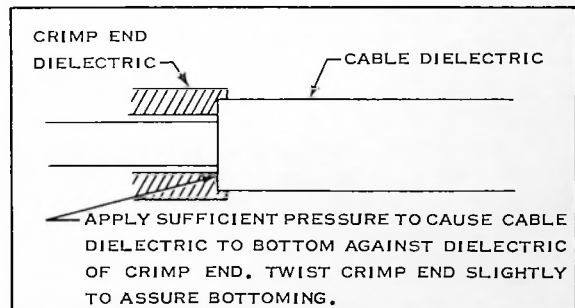

FIG. 4
- Push Crimp End back under Braid. Apply sufficient pressure to cause Cable Dielectric to bottom against Dielectric of Crimp End, see Figure 4. Twist Crimp End slightly to assure bottoming.